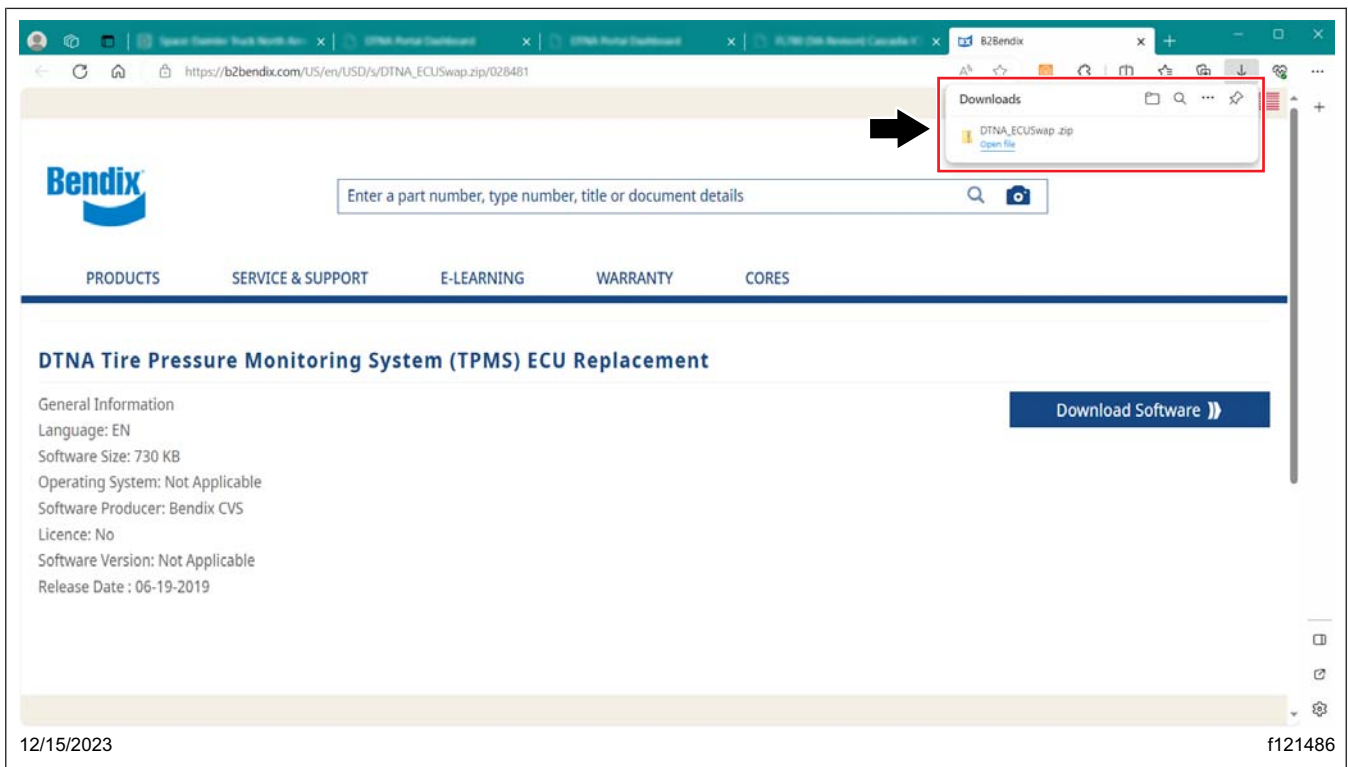

Fig. 18, Software Downloaded
- 1.8 A 'Downloads' box will appear in the upper right-hand corner of the browser window, as shown in **Fig. 18**. Once the download is complete, select 'Open file' to see the contents of the downloaded zip file within the file explorer.